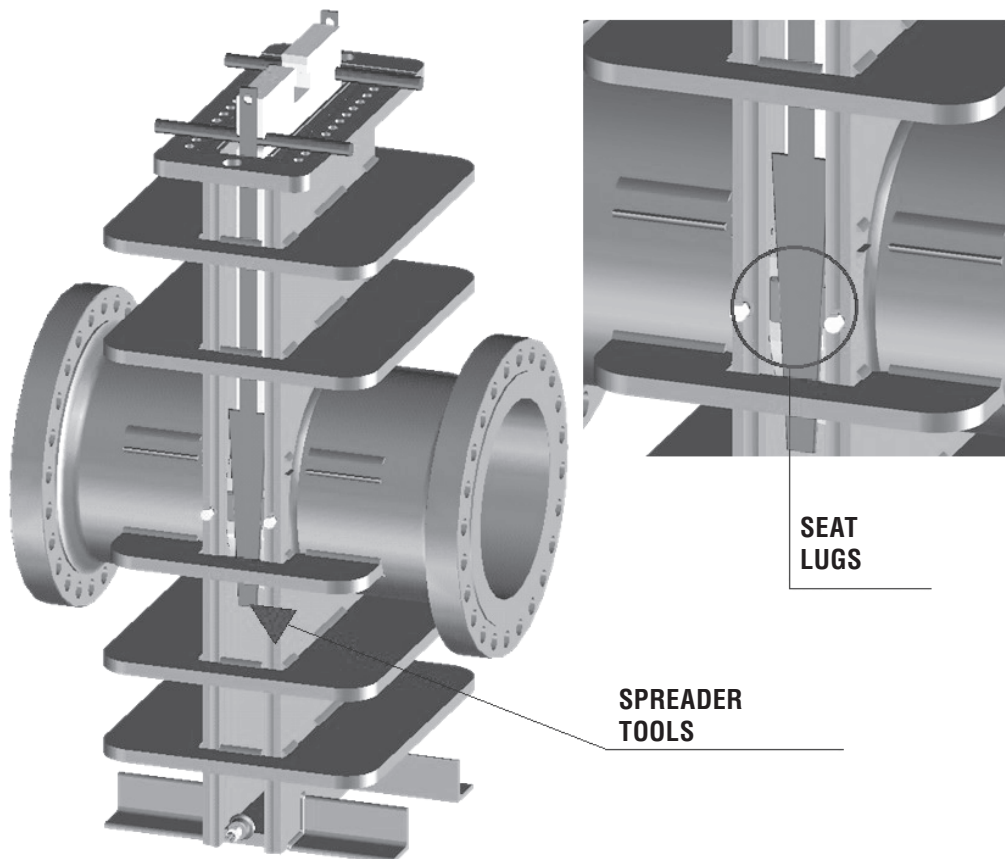

Figure 14 - Seat spreader tools use.
18. Wedge the small end of the seat spreader tools between the seats tool lugs and drive the tools down simultaneously (for about 50[mm]), pushing the seat back in the recess (Figure 14).
19. Remove the gate from the body (Figure 14) by screwing N°2 eyebolt in the slab side holes, as marked in Figure 14. For valve size of 12” and below the side holes are not provided. Remove the socket head screw from the side holes and install N°2 male eyebolts in both M8 tapped holes.
- Yoke to bonnet gasket (15)
21. Remove the seat spreader tools (Figure 14).